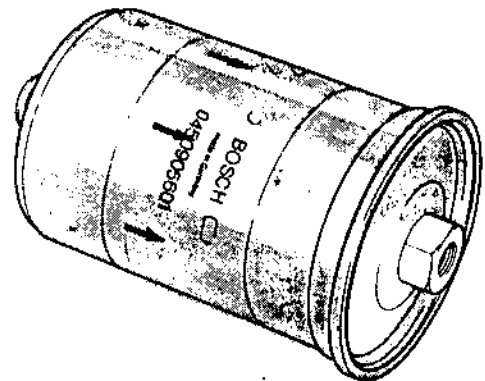

Fig.2. Fuel filter assembly.
5. Fit new filter assembly and secure, ensuring filter assembly is correctly positioned (note direction of fuel flow arrows on side of filter canister), refer to Fig.2.